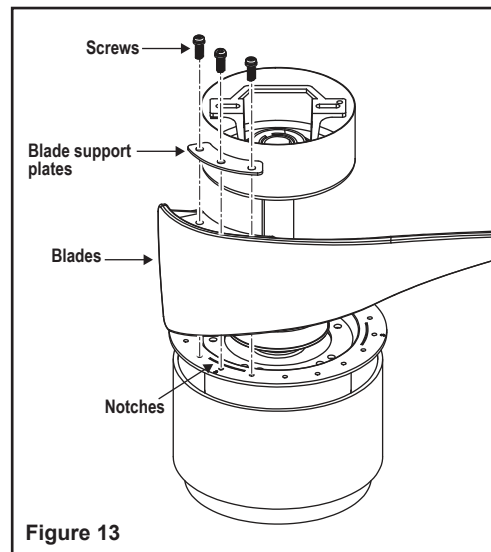

Figure 13
Step 1. Align the blade holes with the motor notches. (Fig. 13)